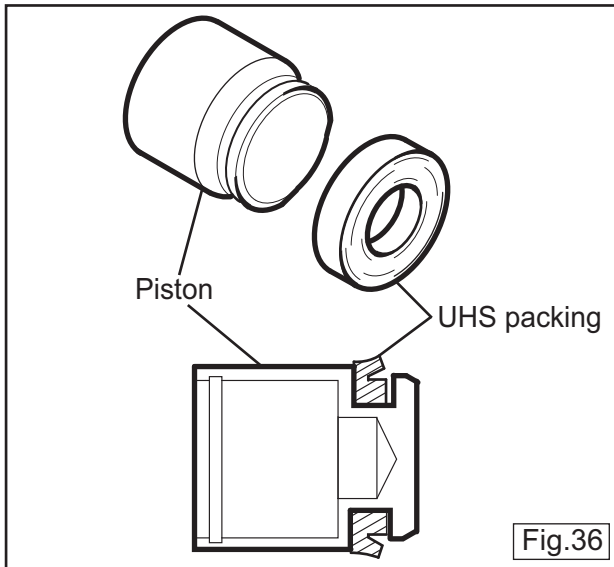

Fig.36
- Use the genuine parts for bearing (20).
- ③ Assemble the UHS packing (23) to piston (22). (After applying hydraulic oil to UHS packing, assemble it with your finger.) (Fig. 36)